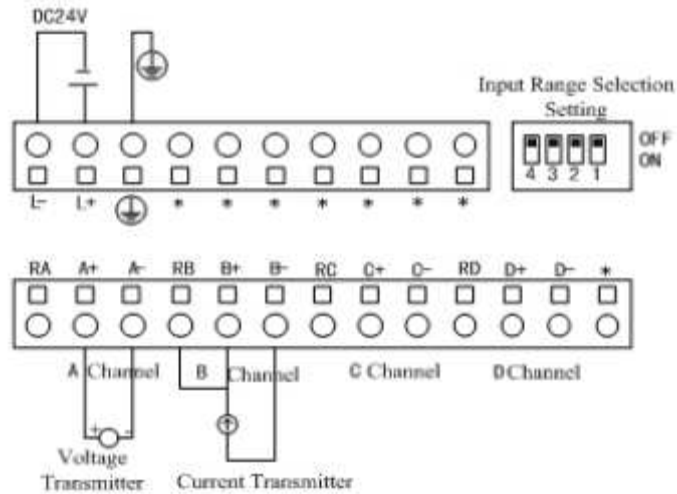

Figure3-2-11 LM3310B Terminal Definition and Wiring
- L+ and L- in Figure 3-2-11 are the positive end and negative end of external 24V DC power;
- Lower level terminals are signal input channels, input signal can be either voltage or current signals. In Figure3-2-11, when input signal is voltage signal, A+ connects the positive end of voltage transmitter and A- connects its negative end. When input signal is current signal, short connect RA and A+ connects the positive end of current transmitter, A- connects the negative end of current transmitter;